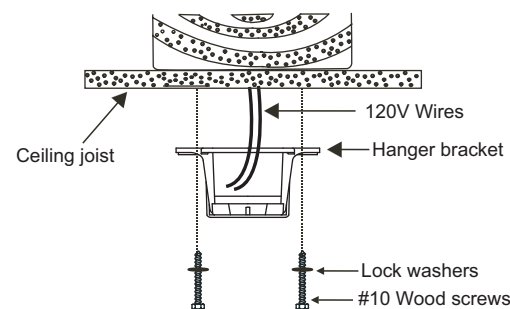

Fig. 7
Step 4A. Secure mounting bracket directly to a joist from the building structure. Use only the appropriate wood screws lock washers included with your fan. **(Fig. 7) NOTE: THIS STEP IS ONLY FOR CANADA.**
CAUTION! THE HANGER BRACKET MUST BE INSTALLED DIRECTLY TO THE BUILDING JOIST USING THE TWO WOOD SCREWS AND WASHERS PROVIDED. **(Fig. 7)**